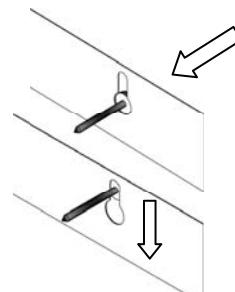

Figure 4
STEP 3: Position the keyholes on the back of the Wall Cube over the screws. Pull the Wall Cube downward in order to secure it in place as shown in **Figure 4**.